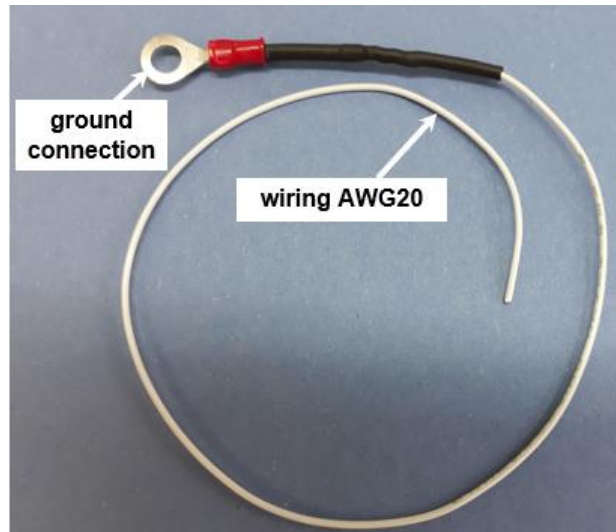

Figure 4. Diode assembly adjusted for installation on PS-28 Cruiser
- b) Solder a sufficient length of AWG20 wire on the diode assembly, see Figure 4.